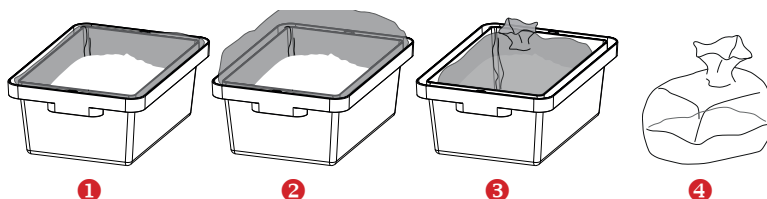

Fig. 20
- Pull off the waste bag from the inner rim of the sealing channel and close the drawstring before slowly lifting the filled bag upwards out of the container. (Fig.20) For safe transport out of the laboratory, another bag should be pulled over the dust-filled bag.